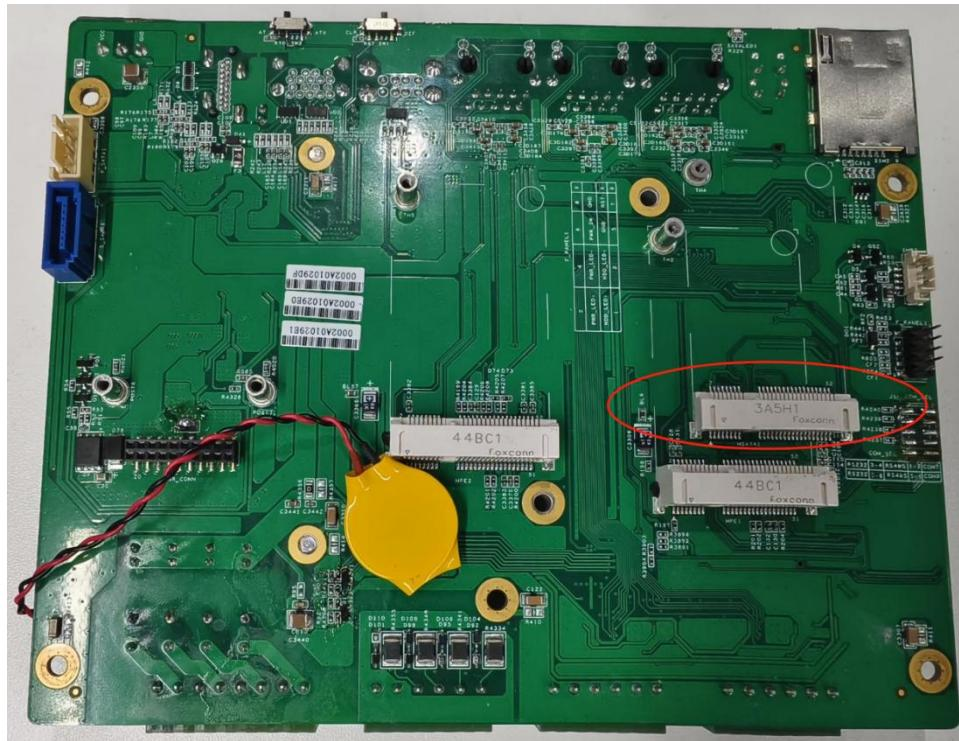

Figure 2.23
Step 2: Install the mSATA module as shown in Figure 2.23.